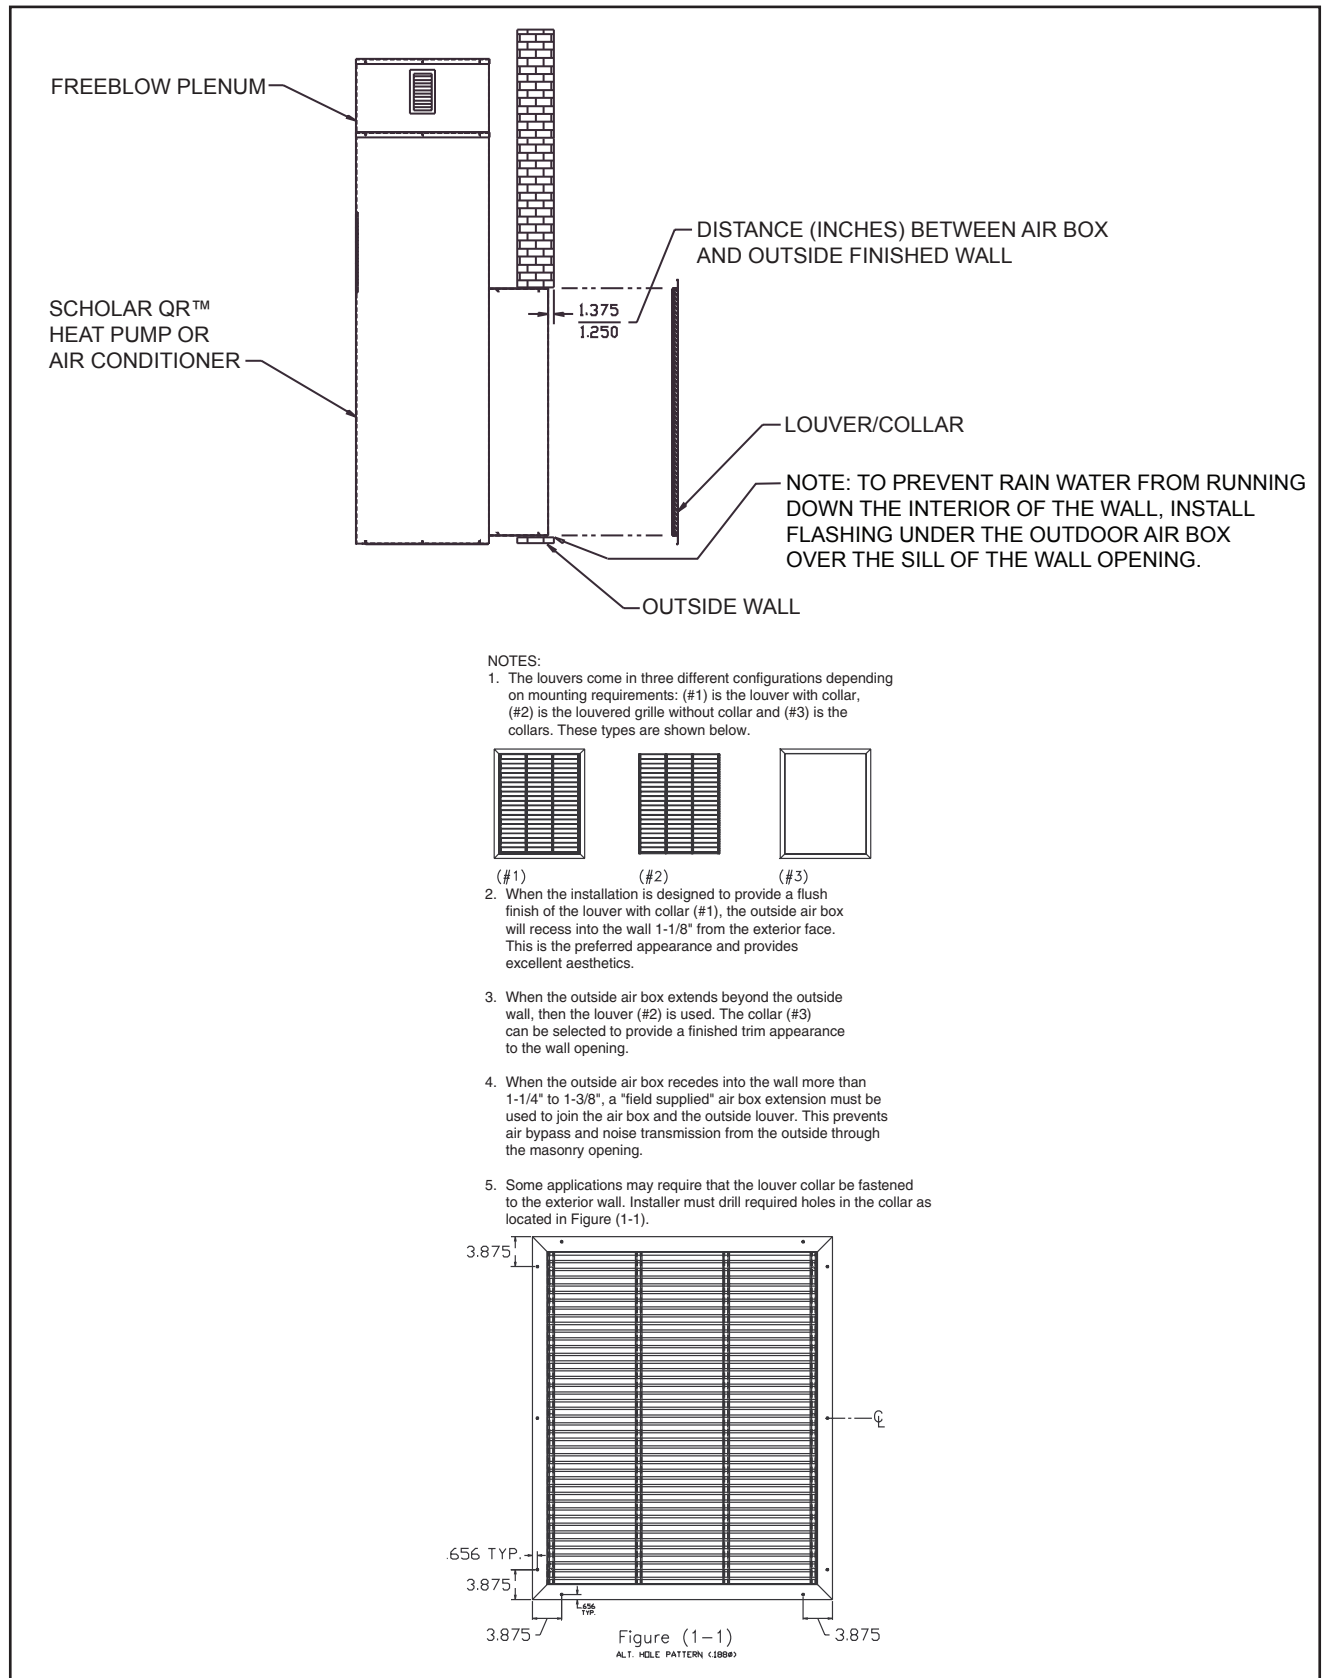

Figure 1. Dimension between Scholar QR Air Box and Finished Outside Wall for Outdoor Louver/Collar Assembly Installation.
The Scholar QR heat pump or air conditioner should be installed following the instructions in this manual. After installation, the Scholar QR air box should be from 1-1/4" to 1-3/8" from the outside surface of the finished wall, as shown in Figure 1.
1. The louver/collar assembly is **fastened directly to the air box** as shown in Figure 1, with six screws supplied with the louver/collar. Prior to installing the louver, apply caulk around the perimeter flange of the outdoor air box. Be careful not to block the weep holes on the bottom flange. To ensure proper fit up of the collar to the outside wall surface, be sure the unit is positioned as shown in Figure 1. After the six screws have been installed and appropriately tightened (do not over torque), the color coordinated screw caps are snapped into place to cover the screw fastener heads. Provide a water seal around the top & both sides edges of the collar/wall interface, by applying an even bead of sealant caulk at the collar/wall interface.
2. The louver/collar assembly is **fastened directly to the outside wall**, as shown in Figure 1.
The louver itself may be fastened to the air box as shown in Figure 1.
The collar itself may be fastened to the outside wall by following the instructions in Figure 1.